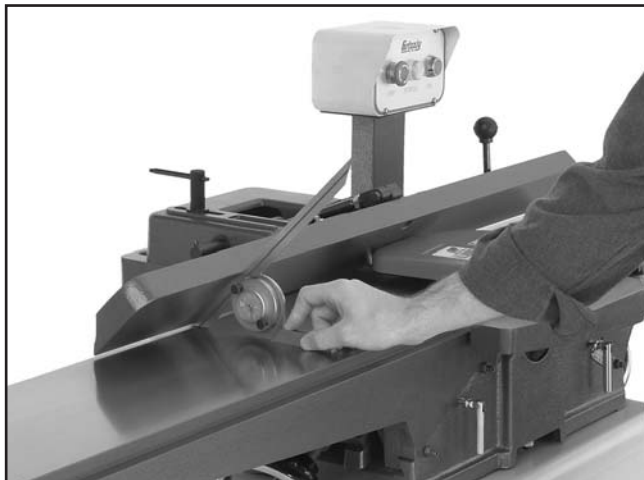

Figure 47. Adjusting fence 45° inward.
1. Using a 45° square, adjust the fence to the 45° inward position, as shown in **Figure 47**.